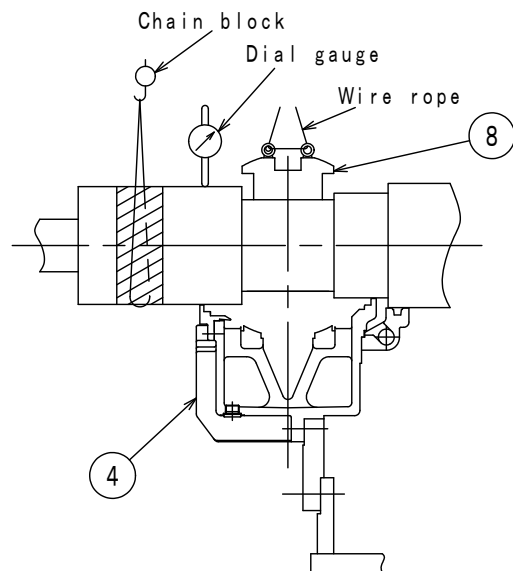

Fig. 13-8
- b) During lifting the rotor, rotate bearing shell lower half ⑧ to the top position of the shaft journal.
- c) Screw eye-bolts into bearing shell lower half ⑧, and take it out by lifting (see Fig. 13-8). Take utmost care in this procedure as same in the case of the bearing shell upper half.